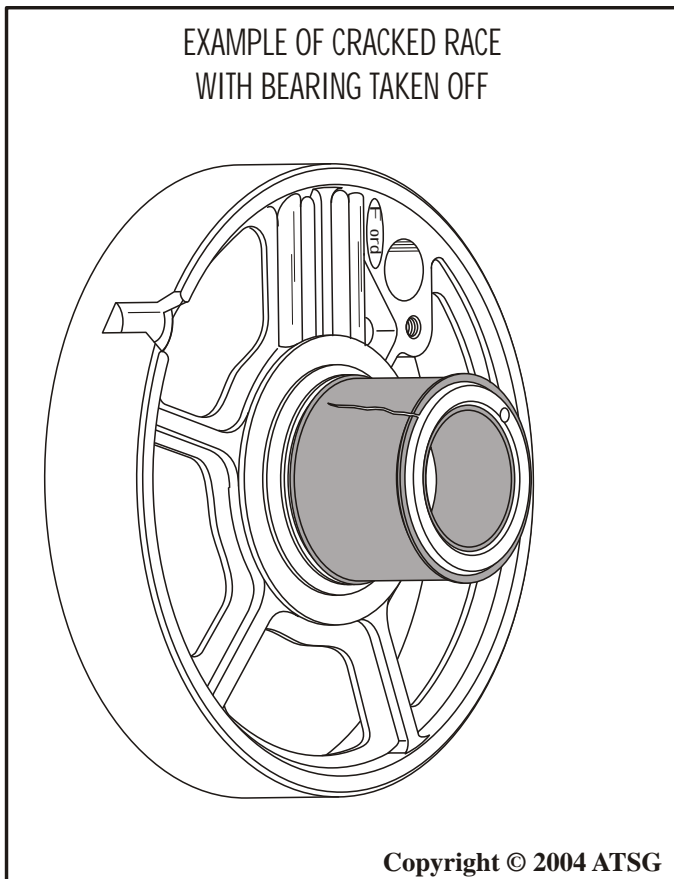

Figure 94
4. We have seen several supports with the bearing race cracked, as shown in Figure 94. This will create leakage of direct and forward clutch oil, into each others circuit.